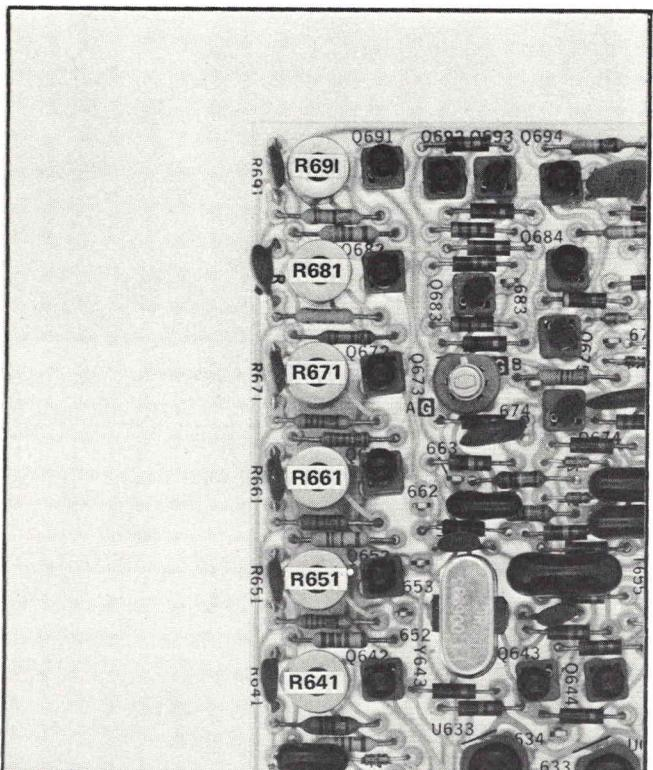

Fig. 5-42. Line Timing board adjustment locations.
e. Using Fig. 5-41B and Fig. 5-42 as guides, CHECK and/or ADJUST all Line Timing listed in Table 5-5.
s. **ADJUST**—R681 (see Fig. 5-42) until the positive and negative portions of the display are equal.